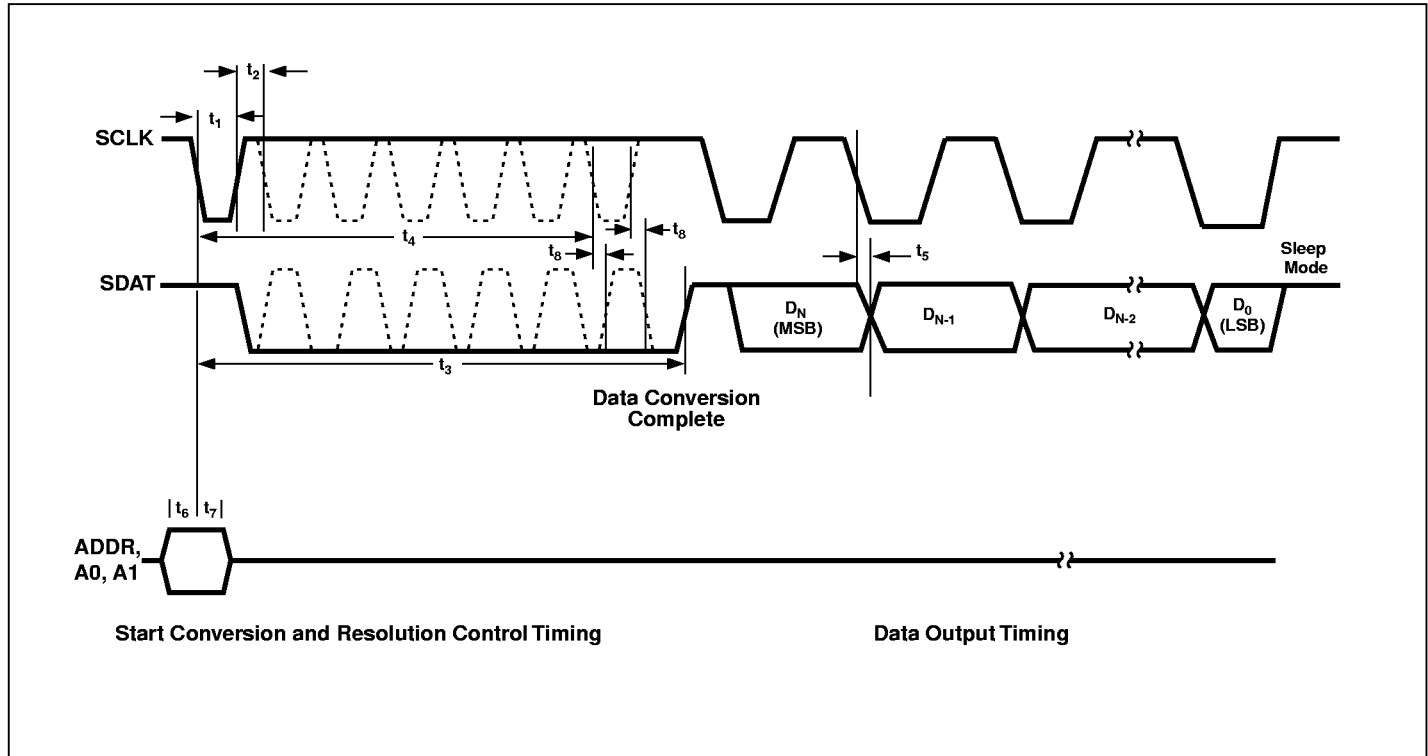

Figure 2. Conversion and Data Output Timing
**AC ELECTRICAL CHARACTERISTICS:** Typical values are measured at  $T_A = 25^\circ\text{C}$  and  $V_{DD} = 2.7\text{V}$ . Minimums and maximums are guaranteed in the range  $T_A = \text{min to max}$ ,  $V_{DD} = 2.7\text{V}$  unless otherwise specified. (See Figures 2 and 5.)
The TC3401 has a 16-bit sigma-delta A/D converter. It has two differential inputs, an analog multiplexer, a  $V_{DD}$  monitor with reset generator, and an early warning power fail detector. The detailed description of the key components of the TC3401 is outlined below. (Also refer to the *A/D Operational Flowchart* on page 10 and the Timing Diagrams in Figures 2 through 5).
After each high to low transition of SCLK, in the  $t_4$  interval, the SDAT output is driven high by the TC3401 to acknowledge that the conversion has been decremented. When the SCLK returns high or the  $t_4$  interval ends, the SDAT line returns low (see Figure 2). When the conversion is complete SDAT is driven high. The 3401 now enters sleep mode and the conversion value can be read as a serial data word on the SDAT line.